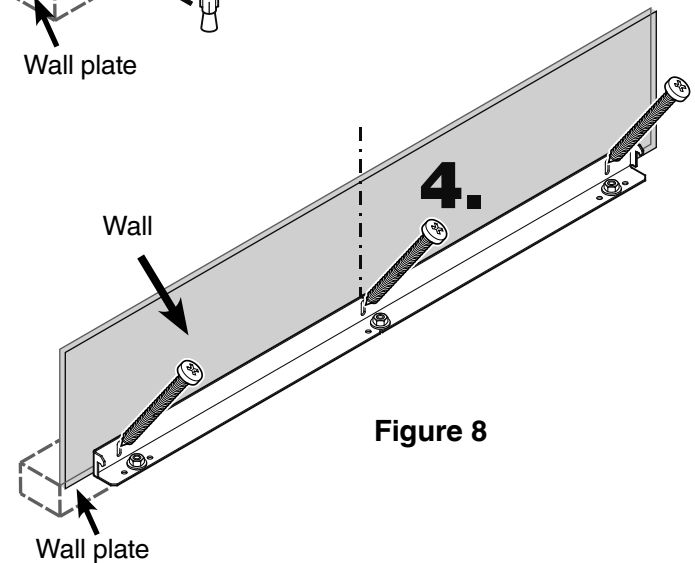

Figure 8
4. Fasten bracket with 3 screws (1/4" x 2-1/8") into the wall plate (Figure 8).